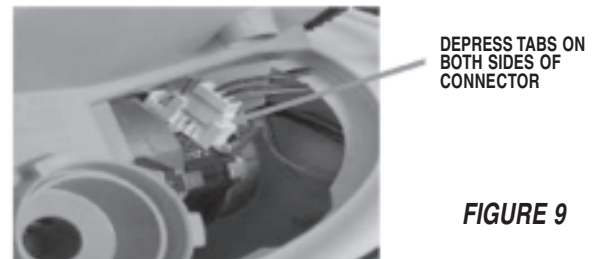

FIGURE 9
19. Disconnect the wash-motor wiring connector by depressing the tabs on either side of the connector and pull it out of the motor connector. (Fig. 9).